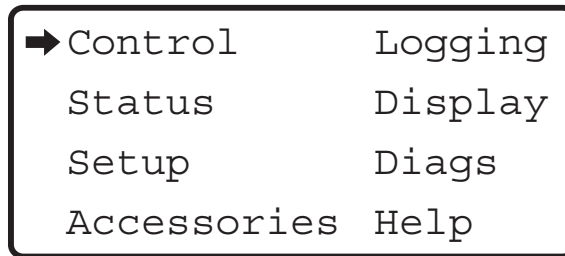

Figure 5: PowerView RM Main Menu
- Figure 5: PowerView RM Main Menu 5
At the Monitoring screen, press any navigation key to open the Main menu. This menu contains items that access eight submenus. Figure 5 shows the Main menu.